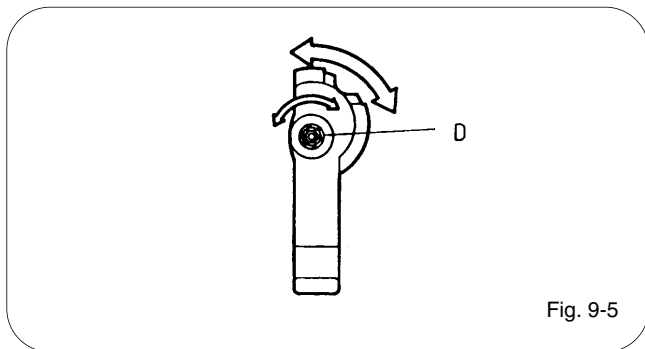

Fig. 9-5
The knob (D) on the control lever is a throttle positioner. (Fig. 9-5)